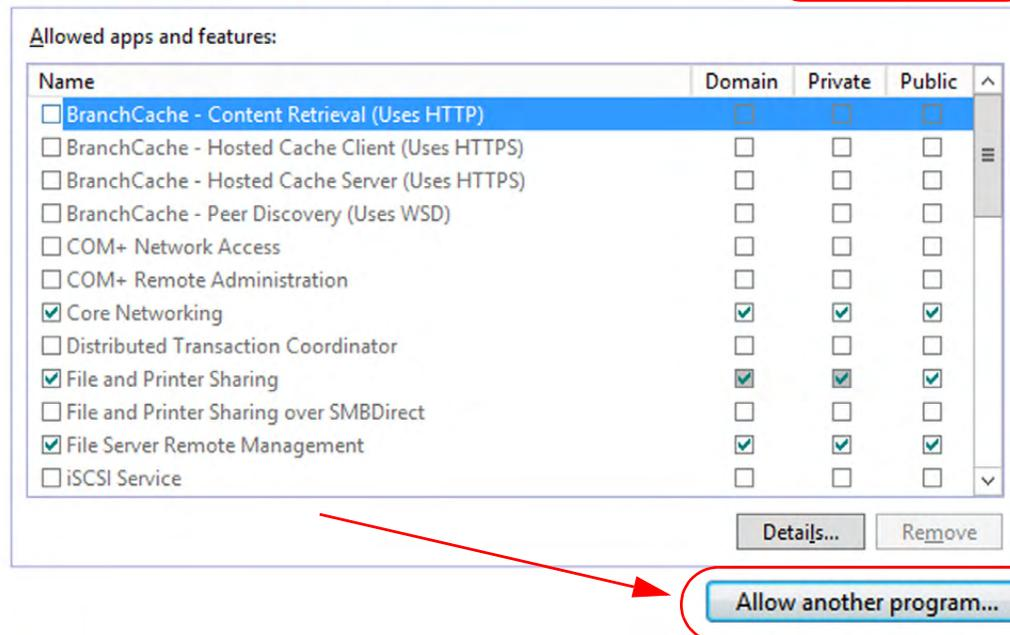

Figure 3.13: Windows Server 2008: Allowed Apps: Change settings -> Allow another program
- From the Windows Firewall screen -> Allow apps to communicate through Windows Firewall”, select Change settings, then select “Allow another program”. See Figure 3.13.